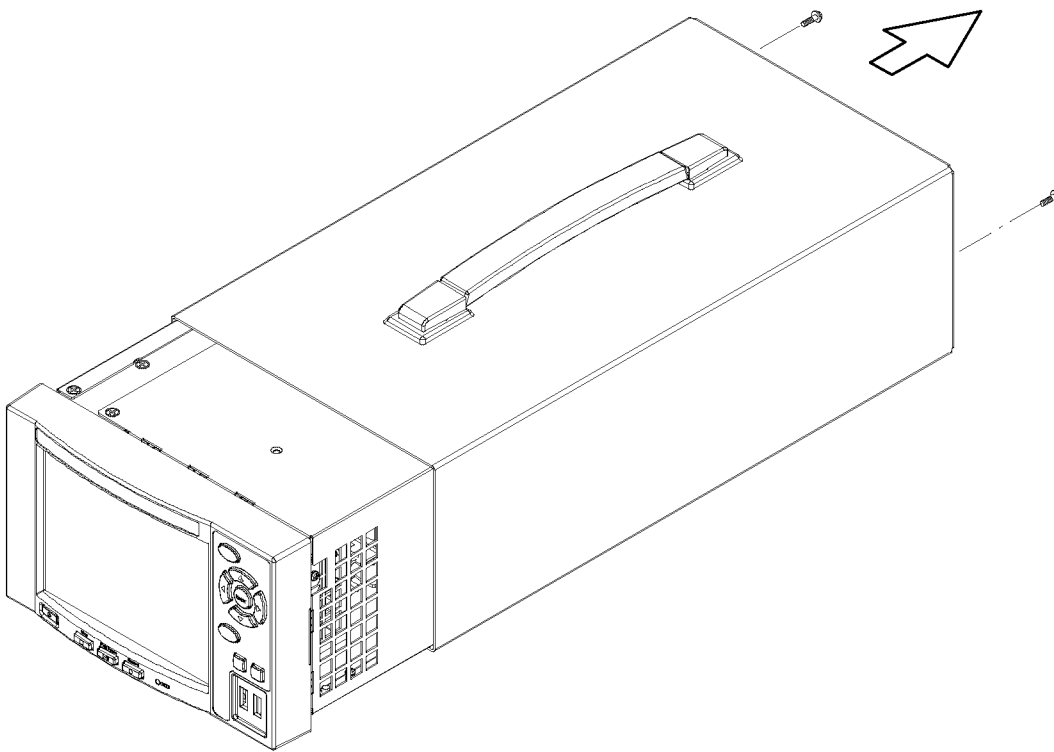

Figure 1: Removing the instrument cabinet
- b. Use a screwdriver with a T15 TORX tip to remove the two screws securing the cabinet to the instrument. (See Figure 1.)
- c. Slide the instrument forward to remove the instrument from the cabinet. (See Figure 1.)